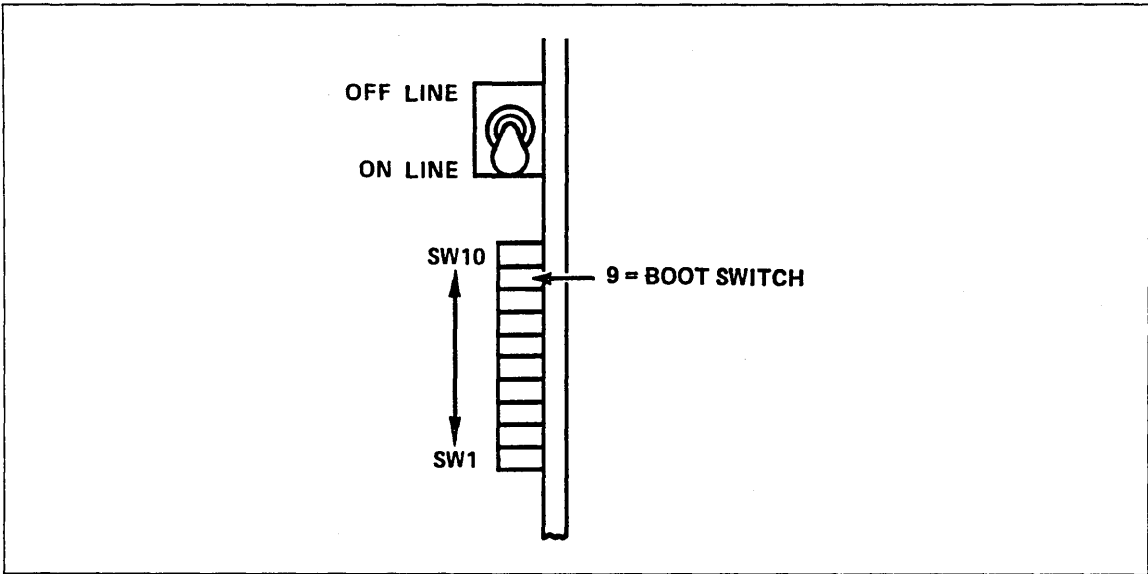

Figure 1-51. ESCI Configuration Switches
4. Set the ONLINE/OFFLINE toggle switch to ONLINE by pulling out and pressing down on the switch, (as shown in figure 1-51).